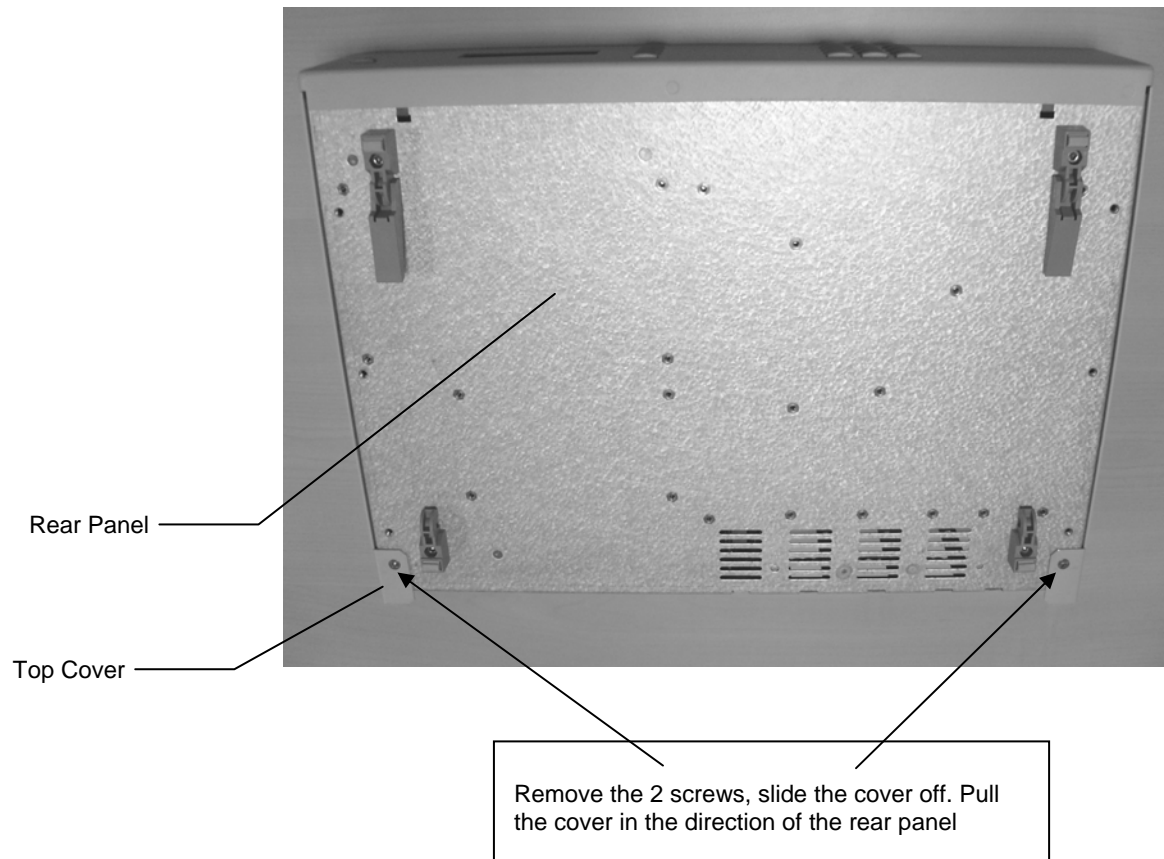

Figure E.1: Removal of the Top Cover
2. Remove the 2 screws as shown below. See **Figure E.1**, which shows how to remove the cover.